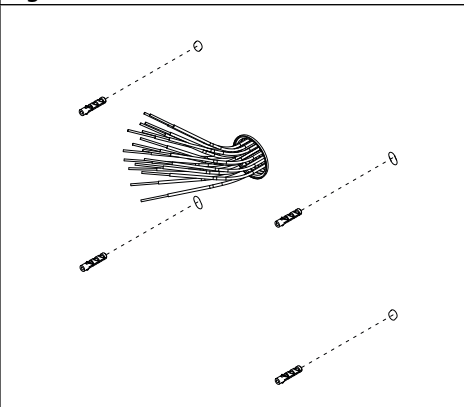
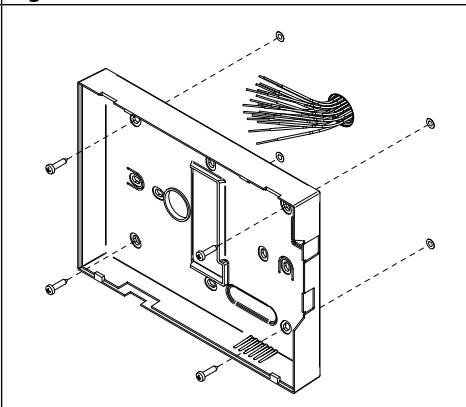

Fig. 5
Fig. 6
2. As shown in **Fig. 5** and **Fig. 6**, fix the back cover of the videophone to the flush mounting box keeping the same orientation shown in the figure and taking care to feed the connection cables through the specific circular opening;